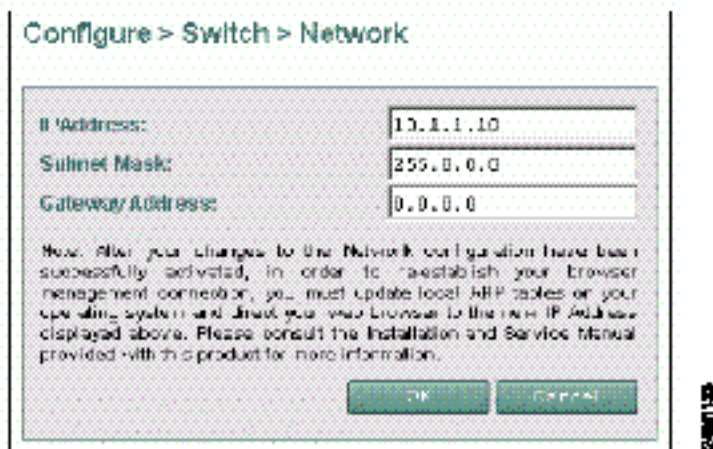

Figure 2-8 Network View
1. Select *Network* from the *Configure* menu (*Configure>Switch>Network*). The *Network View* appears (Figure 2-8).